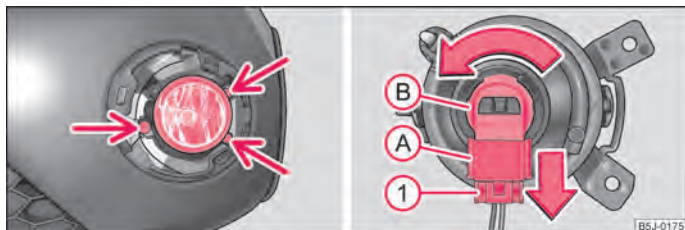

Fig. 163 Front bumper: Fog lights/changing the bulb
- Use the screwdriver to unscrew the screws from the car tool kit ¹⁾ ⇒ fig. 163 - left.
- Press the locking button **1** ⇒ fig. 163 of the plug **(A)** and remove the plug from the socket **(B)**.